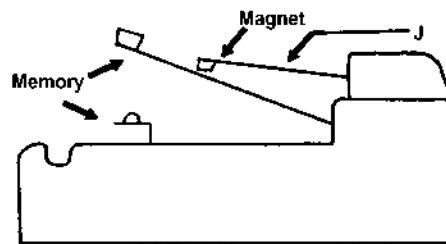

Figure 6 - Mirror-box switches with mirror up
- a. The memory switch and magnet switch shown in Fig. 5 have been replaced with the assembly shown in Fig. 6. They are interchangeable. Connect the violet wires to the memory switch and the orange wires to the magnet switch.